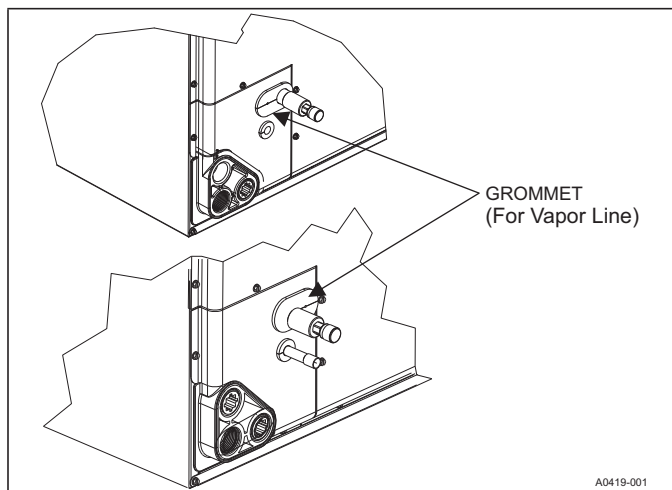

FIGURE 15: Vapor Line Grommet
2. Remove grommets where tubes exit the cabinet to prevent burning them during brazing. In some units, the vapor line grommet may be shipped as a loose part with the unit. Refer to Figure 15.
13. Re-attach the grommets to the lines carefully to prevent air leakage. In some units, the vapor line grommet may be shipped as a loose part with the unit. Refer to Figure 15.